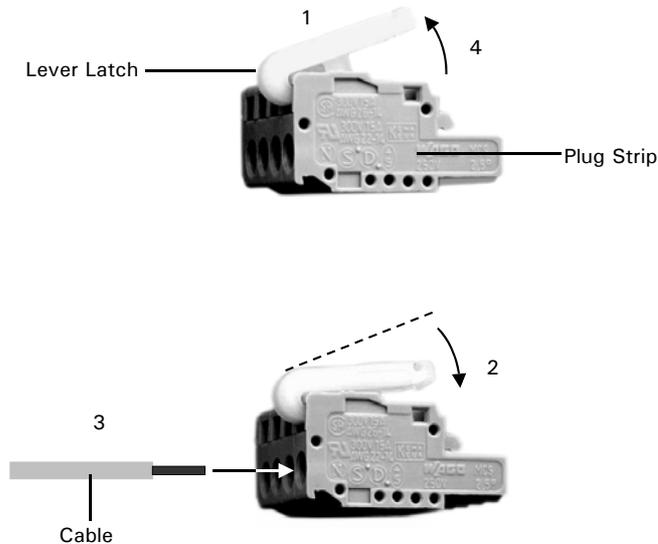

FIGURE 5-6. Connector for Terminal Strips
- a) Insert the rounded end of the lever latch into the square opening of the selected connector of the plug strip (item 1, FIGURE 5-6).
- b) Press the lever latch down as indicated by the arrow so that it is flush with the top of the plug strip (item 2, FIGURE 5-6).
- c) Insert the uninsulated end of the wire into the opening under the catch (item 3, FIGURE 5-6).
- d) Release the catch and remove the lever latch from the plug (item 4, FIGURE 5-6).